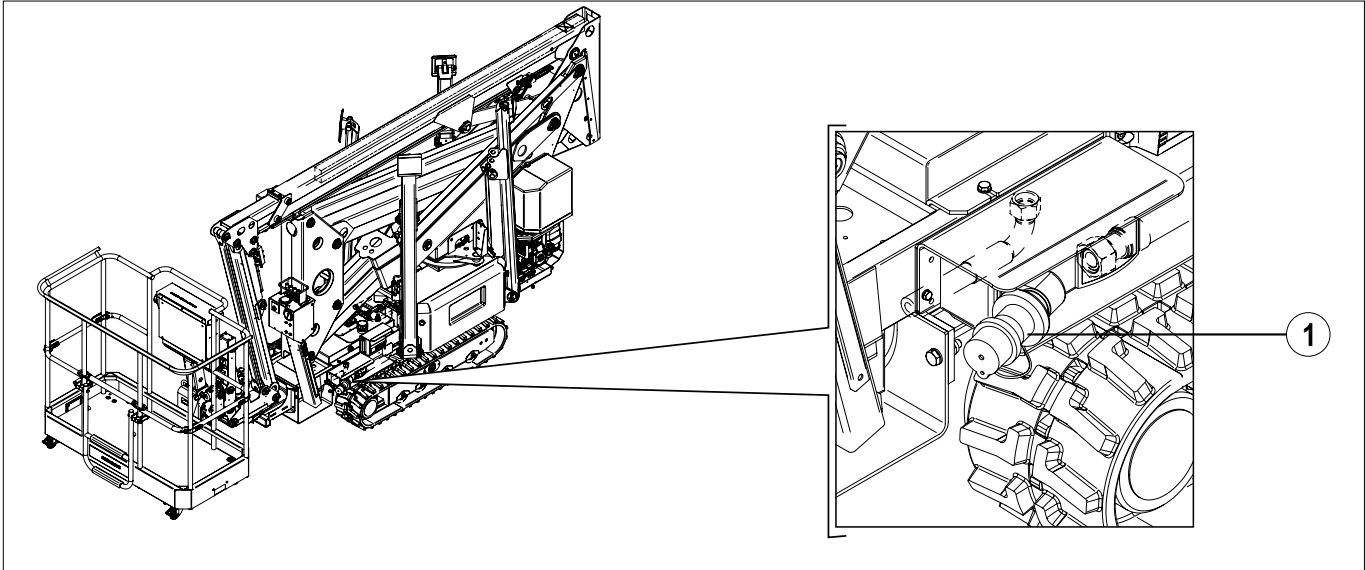

FIG. 26 (Auxiliary electric connection)
- 1) Remove the cap (FIG. 26 - Ref. 1) from the plug.
- 2) Connect the auxiliary electrical connection cable to the plug (FIG. 26 - Ref. 1) on the machine.
- 3) Keep the control lever in the down position (**FIG. 26 - Ref. 2**) to extend the carriage tracks (minimum width: 791 mm);
- 4) Keep the control lever in the up position (**FIG. 26 - Ref. 1**) to narrow the carriage tracks (maximum width: 1067 mm).
- 2) Close the carriage by moving the carriage extension lever (**FIG. 26 - Ref. 1**) upwards until it is fully closed.